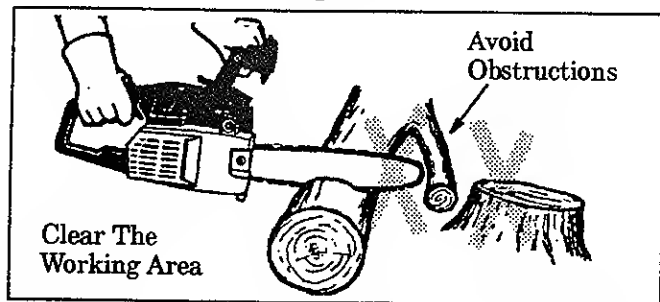

Figure 2
3. **Keep the working area free from obstructions** such as other trees, branches, rocks, fences, stumps, etc. Figure 2. Eliminate or avoid any obstruction that your saw chain could hit while you are cutting through a particular log or branch.